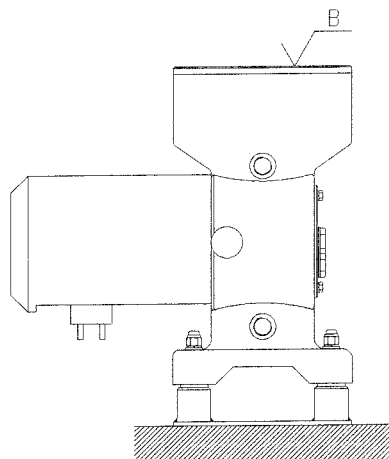

Figure 5.2
The frame plane (B) must be horizontal (fig. 5.2). In order to obtain this, adjust the screwing of cap nuts (7), which must be screwed without tightening, to have always a good working of the shock absorbers.